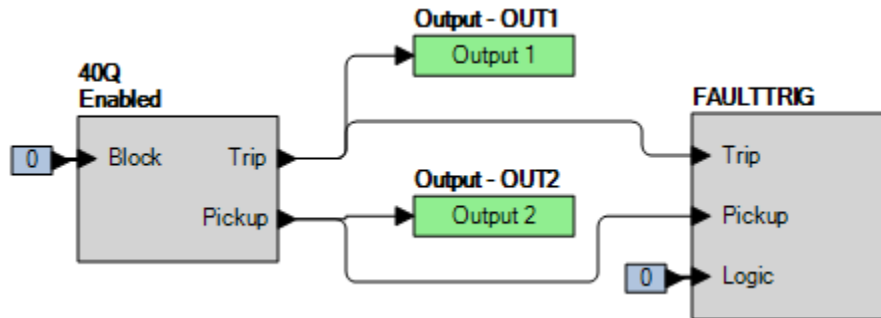

Figure 68-1. BESTlogicPlus Settings
Step 2: Use BESTCOMSPPlus to configure the BESTlogicPlus Programmable Logic shown in Figure 68-1.